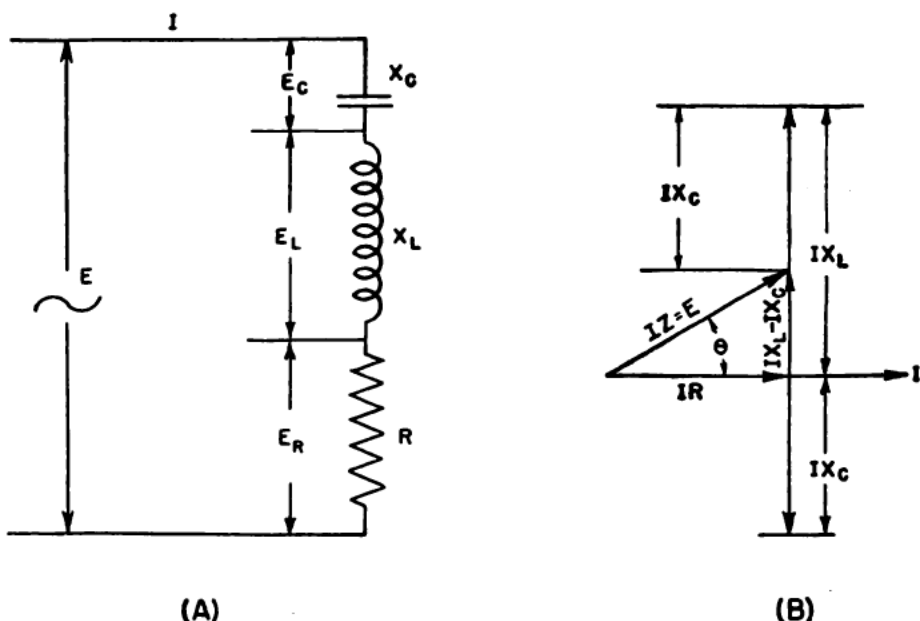

Figure 66.—Circuit containing resistance, capacitance, and inductance.
And now we come to a REAL circuit—an a-c circuit with resistance R , capacitance C , and inductance L , all in series, and shown in figure 66. You put
This is a series circuit, therefore current I is the same throughout the circuit. You can start constructing the vector diagram in figure 66 by laying off the arrow for I horizontally. The voltage E_R through the resistance is IN PHASE with current I , and is equal to IR . So you can lay off IR to scale along vector I .
Now you can see that E_L and E_C oppose each other. Also, since you've drawn your vectors to scale, you can readily see that IX_L is greater than IX_C . Now you can subtract IX_C directly from IX_L , as shown in the upper half of the vector diagram of figure 66 (B).